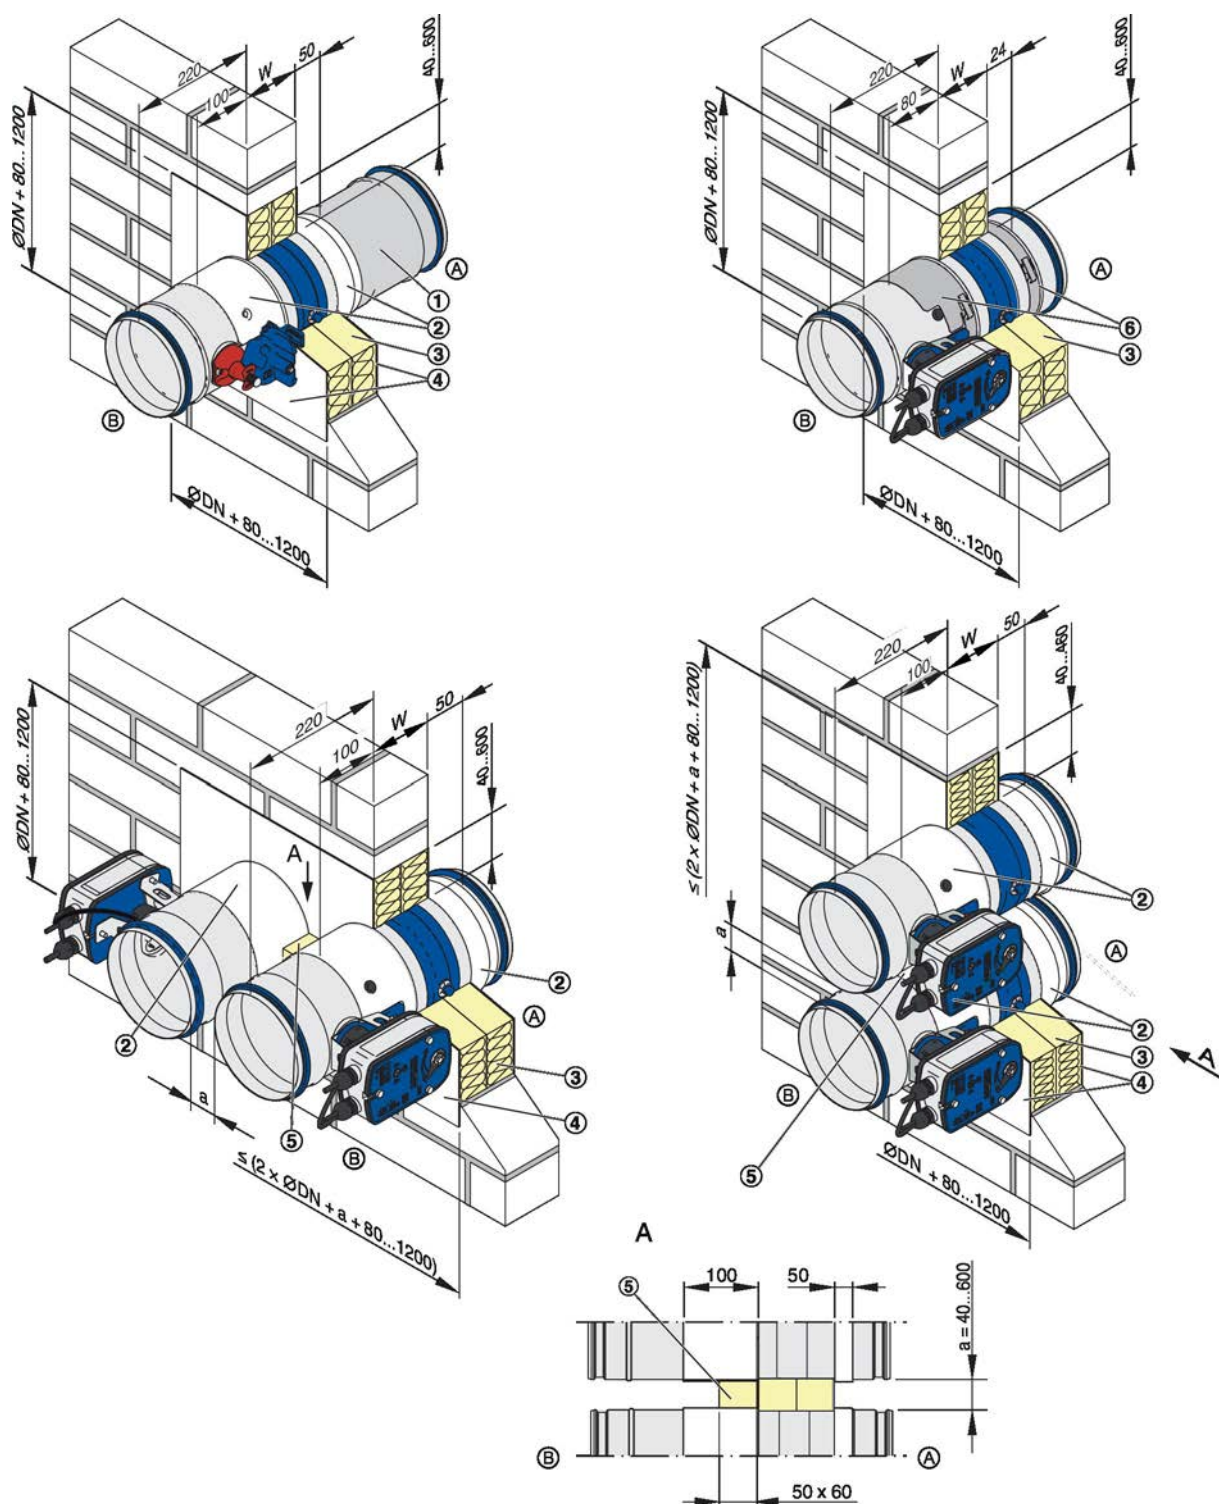

Fig. 11: Installation with fire batt
- ▶ An opening is required, see Fig. 11. 40...600 mm between fire damper and wall opening
- ▶ Apply ablative coating to joints, transitions and any imperfections on the coated mineral wool slabs. Attach the mineral wool strip ⑤, if necessary.
- ▶ You may use sleeves; if you do not use sleeves, you have to apply ablative coating ②,  $\geq 2.5 \text{ mm}$  thick, to the fire damper casing ↪ 'Performance class and installation details' on page 23. The actuator and release unit must not be coated.